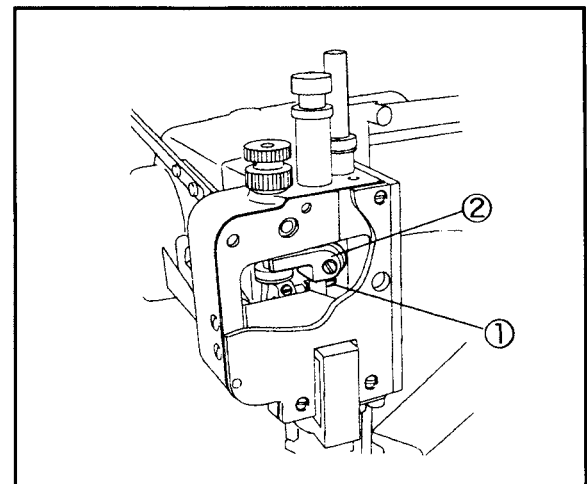
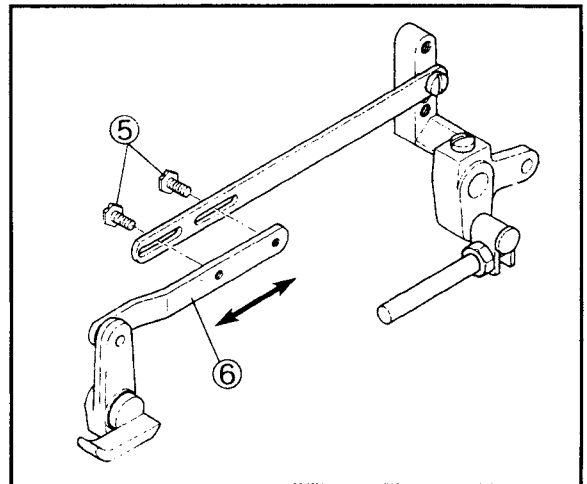

Fig. 8
Fig. 9
- (1) Remove the seal plugs ③ ④ to check the clearance. (Fig. 8)
- (2) Loosen the screw ⑤ of the presser foot lifter lever link (long).
- (3) Move the presser foot lifter lever link (short) ⑥ right or left to adjust the clearance.(Fig. 9)
- (1) 移除油塞 ③ ④ 才可以檢查間隙。(Fig. 8)
- (2) 放鬆壓腳連接桿螺絲 ⑤。
- (3) 移開壓腳連接桿(短) ⑥ 右邊或左邊去調整間隙。(Fig. 9)